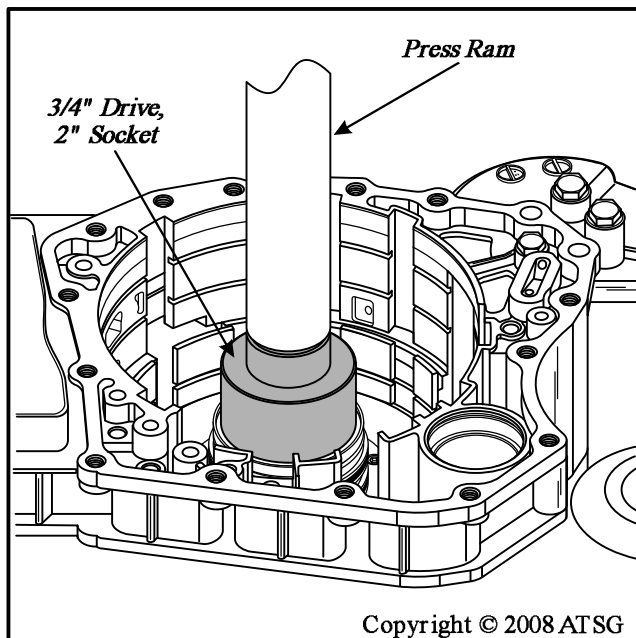

Figure 66
2. A press is then required to remove assembly from the case, using a 3/4" drive, 2" socket to press against support, as shown in Figure 66.
**Caution:** *Ensure that you press against the support, as shown in Figure 66. Special tools are not yet available from dealer and some must be manufactured, which we will discuss later in this manual.*